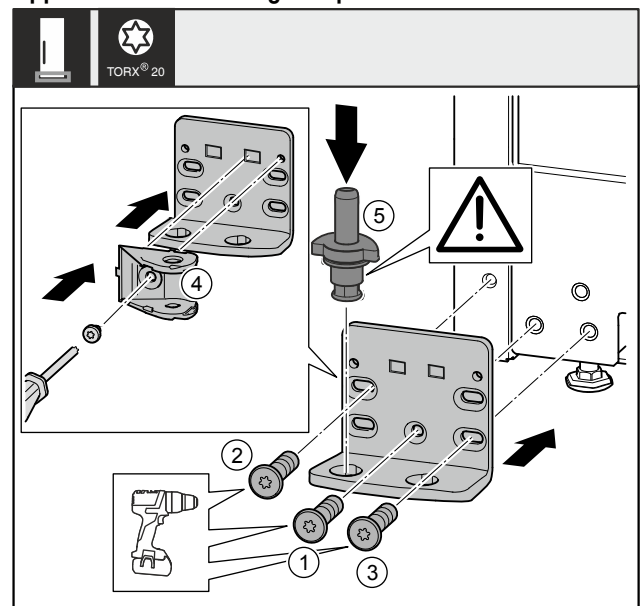

Fig. 37 \*
- Place the swap bearing block on the other side and use a screwdriver to screw it on. Start with screw Fig. 37 (1) at the bottom in the middle.\*
- Tighten screw Fig. 37 (2) and screw Fig. 37 (3).\*
- Turn the closing damper connection Fig. 37 (4) by 180°. Use screwdriver to screw it onto the other side of the swap bearing block.\*
- Insert the bearing bolt Fig. 37 (5) completely. Ensure that the latching cam is pointing towards the rear.\*